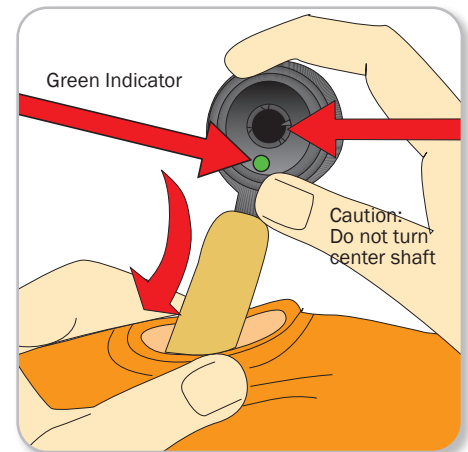

Figure 7
5. Check that the indicator is green. Insert new inflator body with gas cylinder pointing upward inside the lifejacket. Let the sealing ring rest on inflator body around the four lugs. (Figure 7)